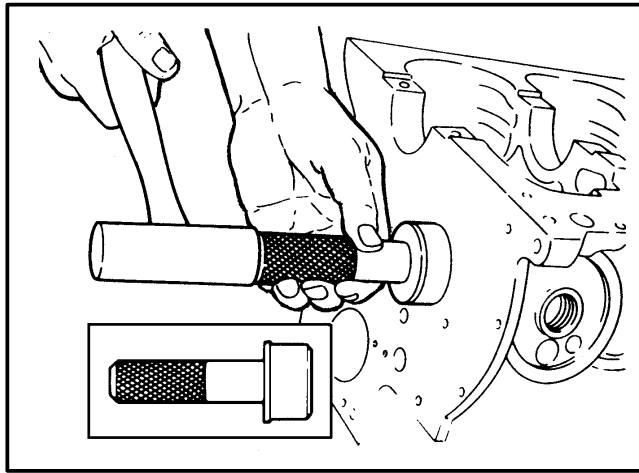

FIGURE 19. CAMSHAFT BEARINGS, REMOVAL AND INSTALLATION
3. Install the head of the special tool on the end of a driver. Remove the front and rear bearings by pushing them toward the center of the engine block. See FIGURE 19.
1. Install the front and rear camshaft bearings first. These bearings will be guides for installation of the intermediate bearings. See FIGURE 19. Use the special tool to install the front and rear camshaft bearings.